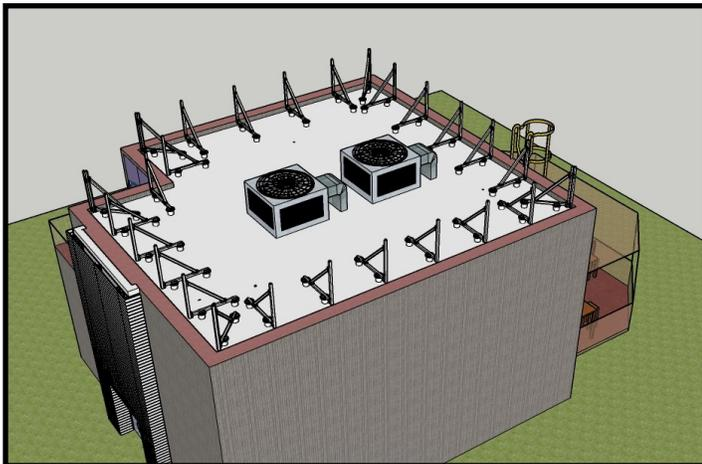

Fig 12
9. Once you have the string line in place, assemble the rest of the frames between the two corner frames. Make sure the tops of the Vertical Tubes are level with the string line and that they are plumb. Repeat this process on all sides. (see fig 12)
11. Secure the Hat Track (#1) to the Vertical Tube (#7) using the #14 x 1" Tek Screws (#2) provided. (see fig 12)